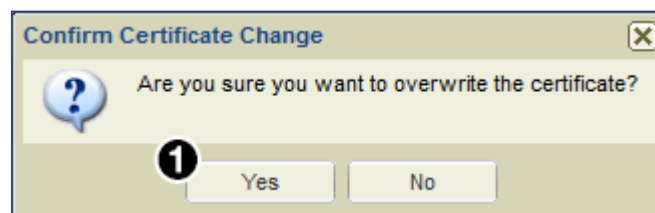

Figure 23. Confirm Certificate Change
The **Confirm Certificate Change** dialog opens (see figure 23).
7. Click **Yes** to complete loading the new certificate (see figure 23, 1).